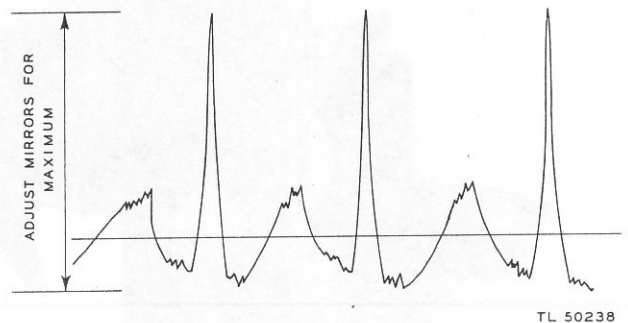

Figure 37—Oscilloscope signal pattern for reflector adjustment
(2) Prepare a test tape by marking a black line about 1/32 inch wide down the center of a short strip of tape. Place the test strip in position in the scanning head.
(3) Turn on the power, and throw the SEND-TALK-RECEIVE switch to SEND.
(4) Observe the pattern on the oscilloscope. The pattern should appear approximately as in figure 37. (Optical-system cover should be in place).
(5) By alternately removing the optical system cover and changing the position of the reflectors, and replacing the cover and checking the oscillo-